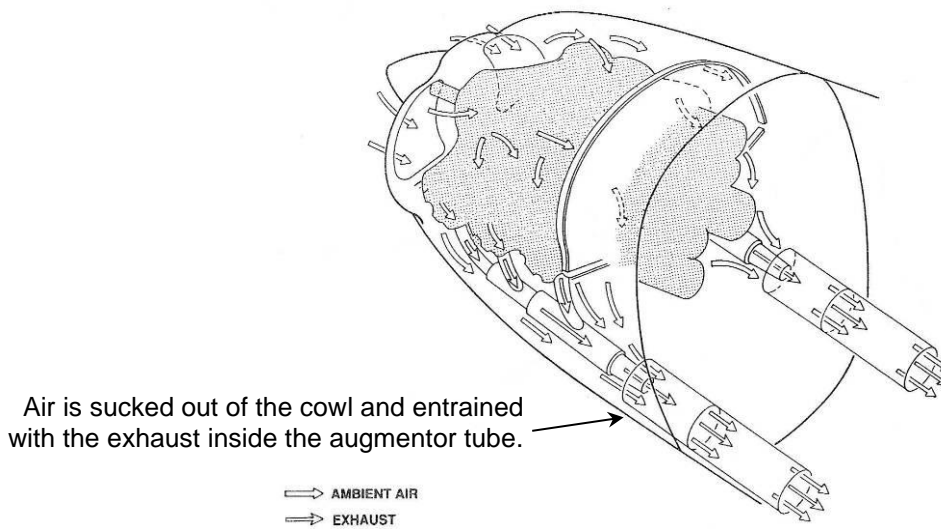

Figure 61. Augmentor Exhaust System
- Augmentor type exhausts (Figure 61) can also be used to suck air out of the cowlings.
- For amphibian or seaplane aircraft using a pusher engine installation the methods outlined above can use the propeller to suck air out of the cowls, but ultimately the effect is limited and can conflict with cooling requirements in other modes of flight. For these installations some form of active venting for the cowls – such as flaps, fans or an augmentor-type exhaust system (See Figure 61) may be required.